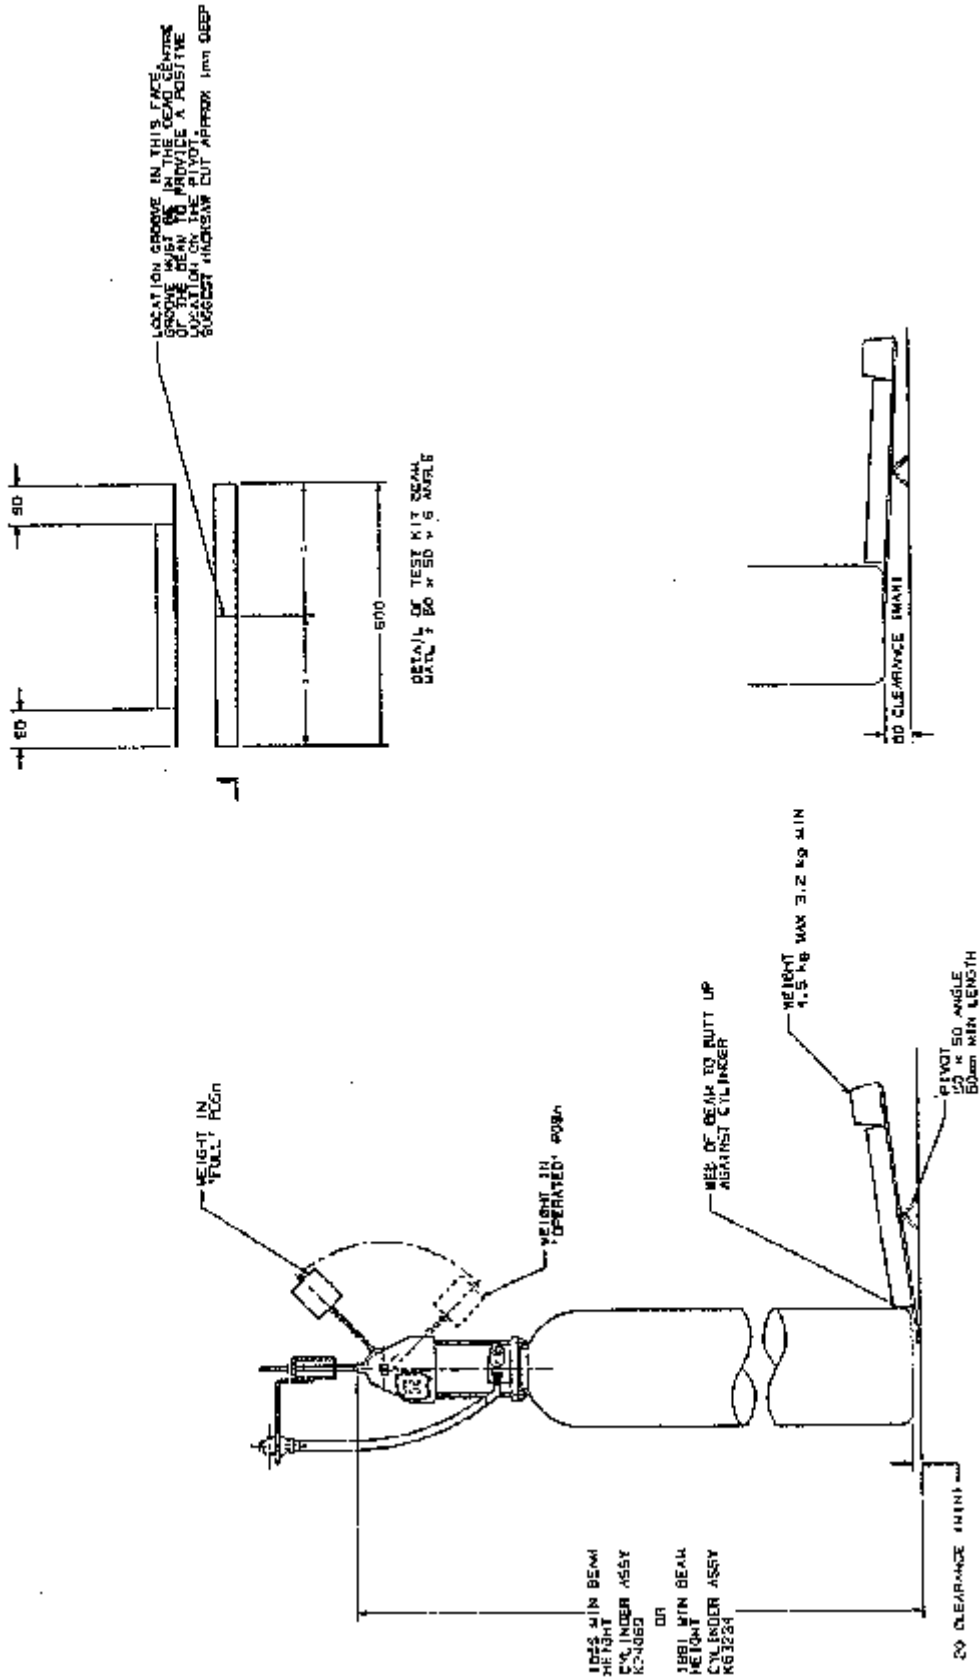

Figure A-1 Test Kit
If the user wishes to confirm that the weight indicator mechanism is functioning correctly, a test kit can be built, see Figure A-1.
- (a) Assemble the test kit as shown in Figure A-1.